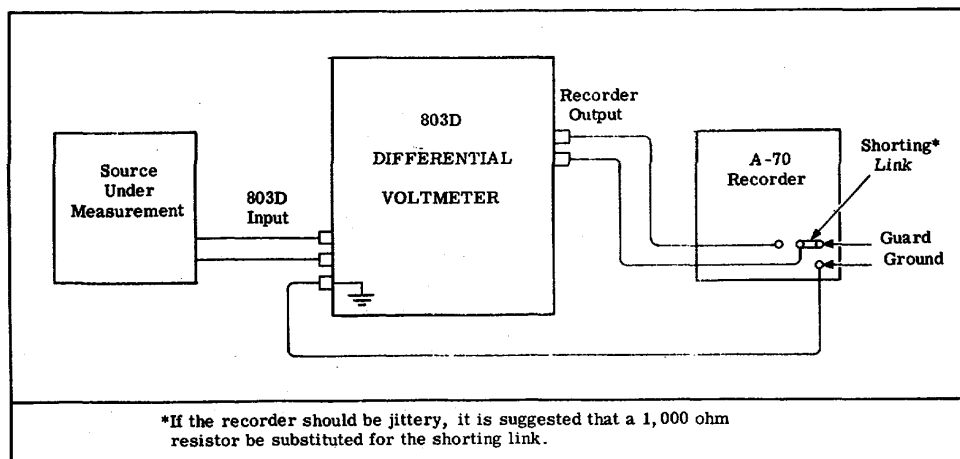

Figure 2-5. RECORDER RECOMMENDED CONNECTION DIAGRAM
a. Connect A-70 recorder to 803D voltmeter with teflon leads as shown in figure 2-5.